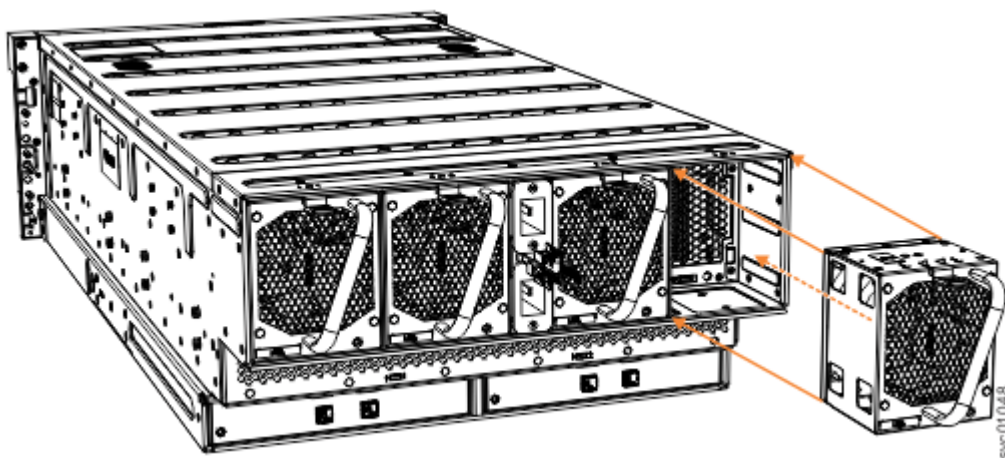

Figure 122. Remove fan module
3. Use the handle to pull the fan module out of the expansion enclosure chassis, as shown in Figure 122 on page 104.